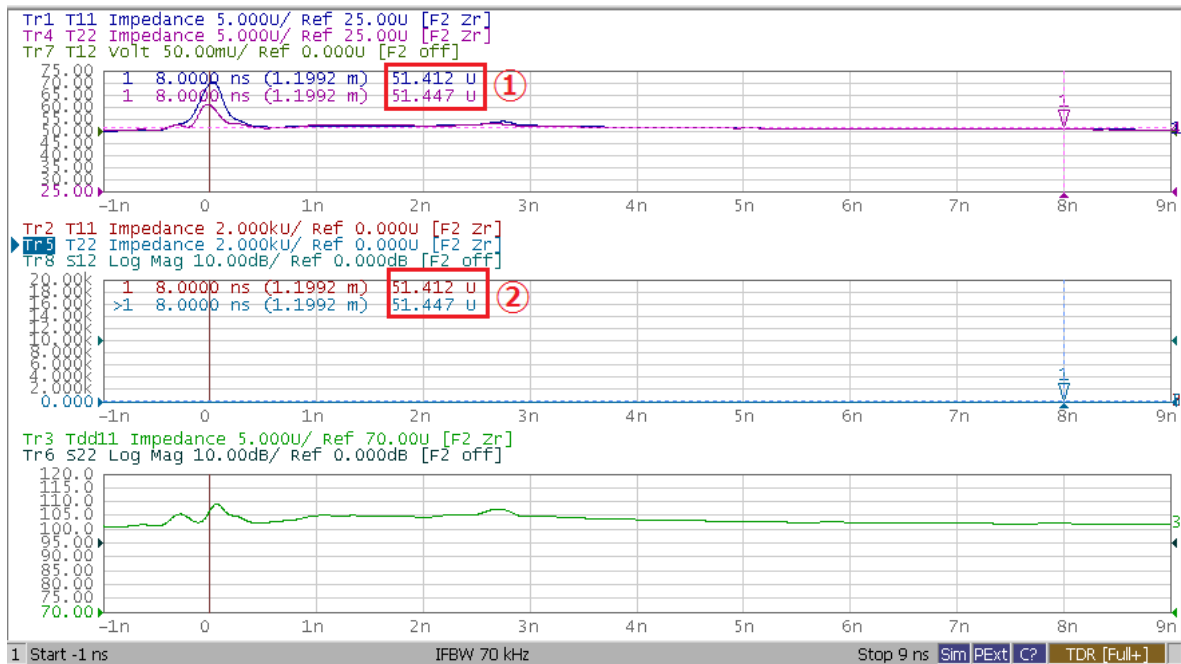

Figure 5-2 Single Ended Output Resistance (R_{SE-TX}) Example
6. Read the marker values¹ (item 1 in Figure 5-2) as R_{SE-TX} for the TXDP and TXDN pins.
6. Read the marker values² (item 2 in Figure 5-2) as R_{SE-TX} for the TXDP and TXDN pins.